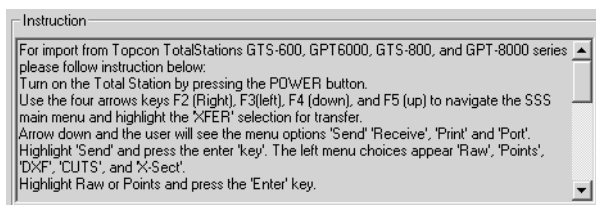

Figure 2-34. Total Station Instructions – Preparing for Export
- Follow all the steps given in the *Instruction* panel on the *Export to Device* dialog box (Figure 2-34) to prepare the Total Station for exporting files.